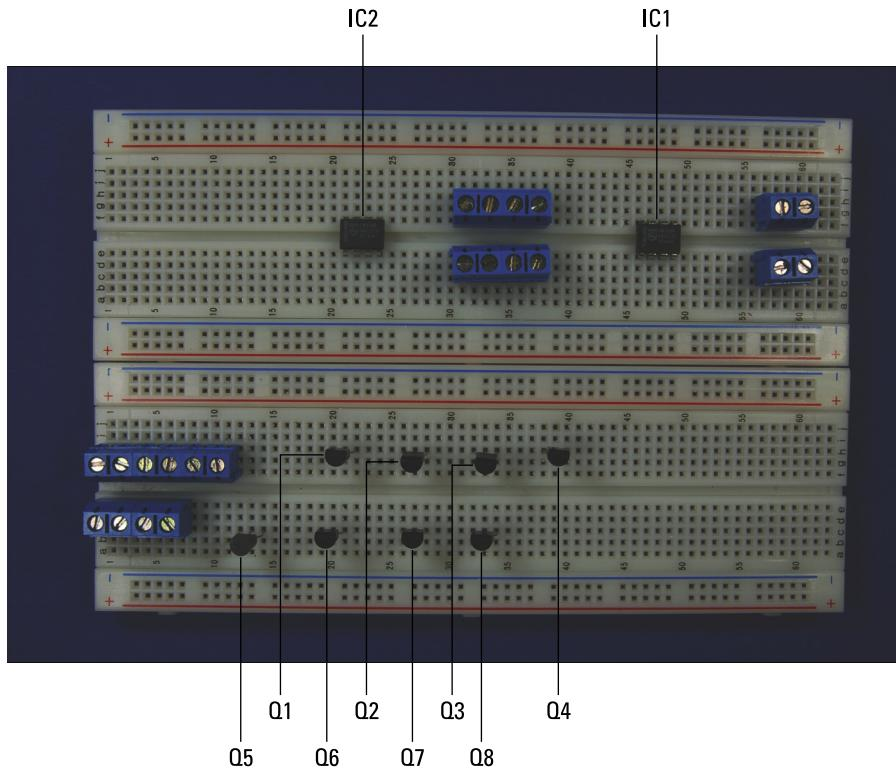

Figure 3-4:
- 1. Place the two LM385 ICs (IC1 and IC2) and 11 terminal blocks on the breadboard, as shown in Figure 3-4.**
- Wires from one of the terminal blocks on the right side of Figure 3-4 go to the battery pack.
2. Place the eight 2N3904 (Q1–Q8) transistors on the breadboard, as shown in Figure 3-4.
Insert each transistor lead into a separate breadboard row with the collector lead to the left side (see Figure 3-4), the base lead in the centre and the emitter lead to the right. The pin designations of the 2N3904 transistors are shown in Figure 3-5.